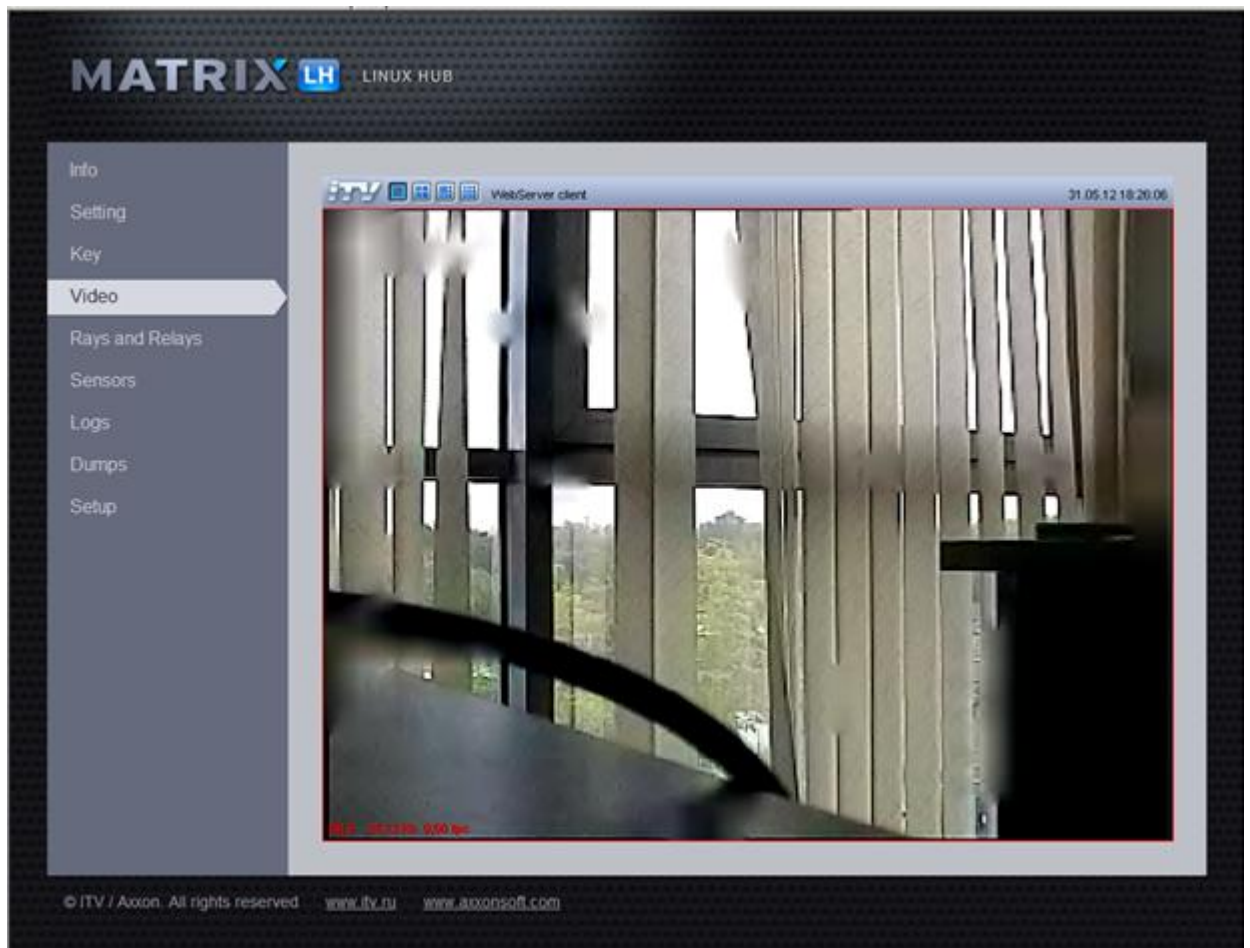

Figure 7.3-2 Viewing the video (Video tab)
The **Video** tab allows viewing the video signal received from the LS (LH) cameras (Figure 7.3-2).